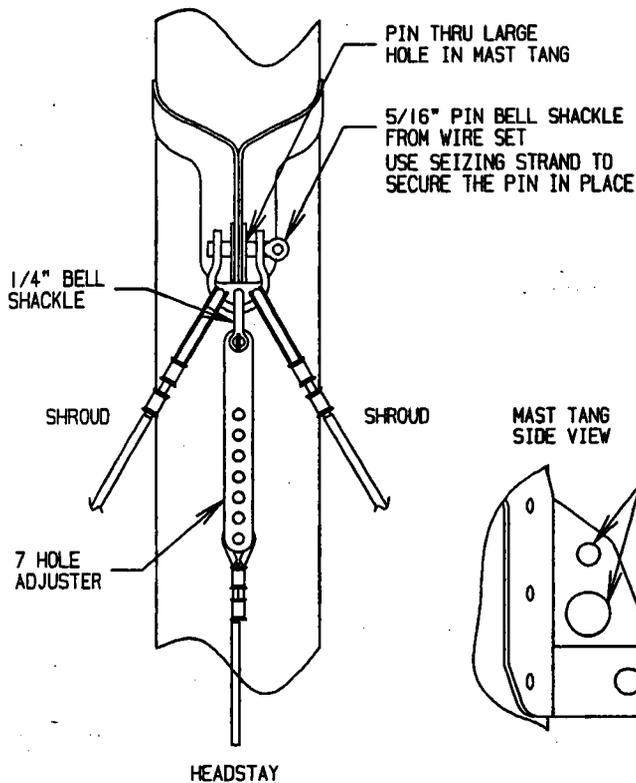

FIGURE 3.5
3.5 INSTALL THE TRAPEZE WIRES AS SHOWN. (FIGURE 3.5)